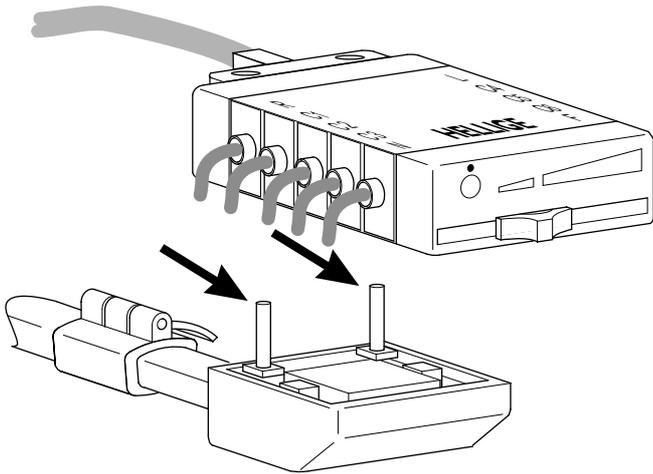

Figure 3-4. Putting the electrode distributor in place
- \* Place the electrode distributor on the pins of the bracket (Figure 3-4).